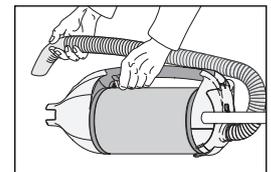

Figure 10
## Detachable Suction Unit - Figure 10
When detached from the power head, the FELIX transforms itself into a lightweight, powerful suction unit, which can be carried around using its comfortable carrying handle (figure 10). Ideal for cleaning stairs, car interiors or upholstery. To remove a floor tool or power head, switch off the power and unplug the vacuum. Press the tool release button (14) and pull the vacuum out of the swivel neck (20).